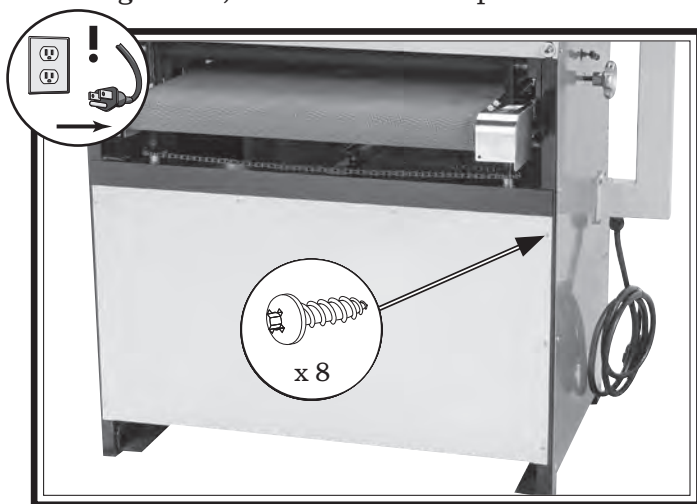

Figure 55. Location of rear panel screws.
3. Remove (8) #8 x $\frac{3}{8}$ " tap screws, as shown in Figure 55, then remove rear panel.